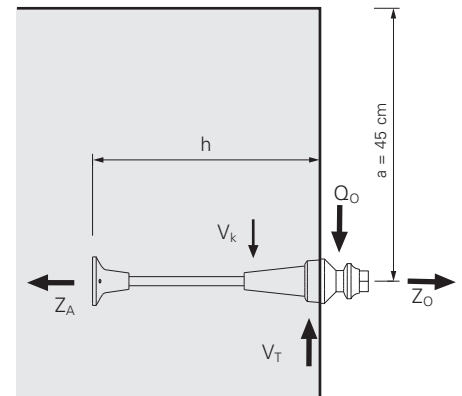

Fig. C1.01
- The maximum tensile force  $Z_O$  is diverted into the concrete via the pressure on the threaded anchor plate  $Z_A$ . (Fig. C1.01)